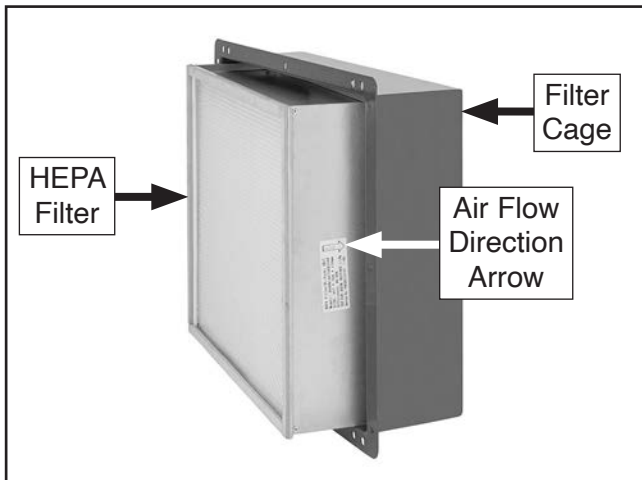

Figure 20. Placing HEPA filter in filter cage.
1. Place HEPA filter in filter cage so air flow direction arrow points into cage (see **Figure 20**).